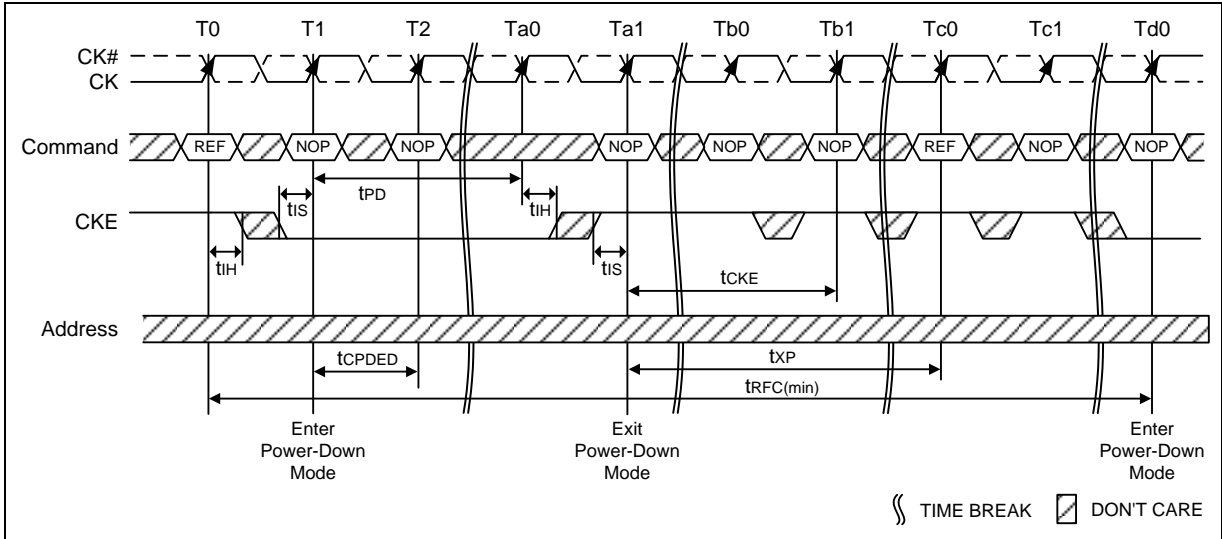

**Figure 70 – Power-Down Entry/Exit Clarifications - Case 2**
- 2)  $t_{XPDLL}$  must be satisfied (referenced to the registration of PD Exit) before the next power-down can be entered. A detailed example of Case 2 is shown in Figure 70.